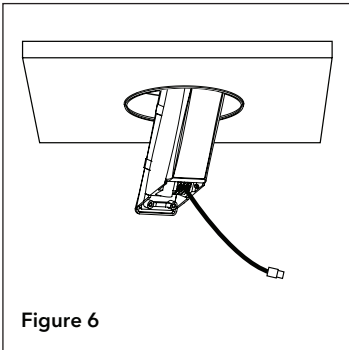

Figure 6
6. Pass connected power supply through ceiling opening and secure in ceiling, leaving power wires exposed for later connection to luminaire (Fig. 6).